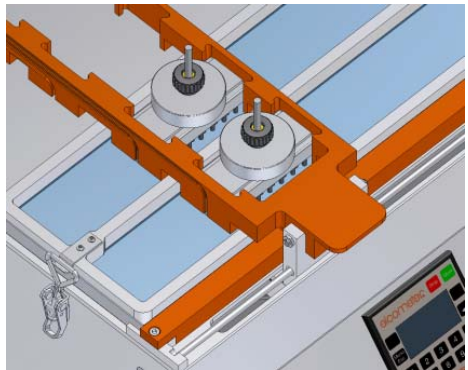

Figure 8. Tool placed into carriage
- Place tool (or tools) into carriage (Figure 8).